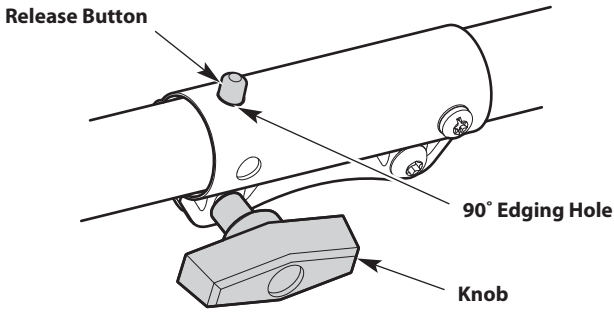

Fig. 21
1. Turn the knob counterclockwise to loosen the coupler (Fig. 21).
2. Press and hold the release button (Fig. 21).
3. Rotate the attachment until the release button snaps firmly into the 90° edging hole (Fig. 21).
4. Turn the knob clockwise to tighten the coupler (Fig. 21).